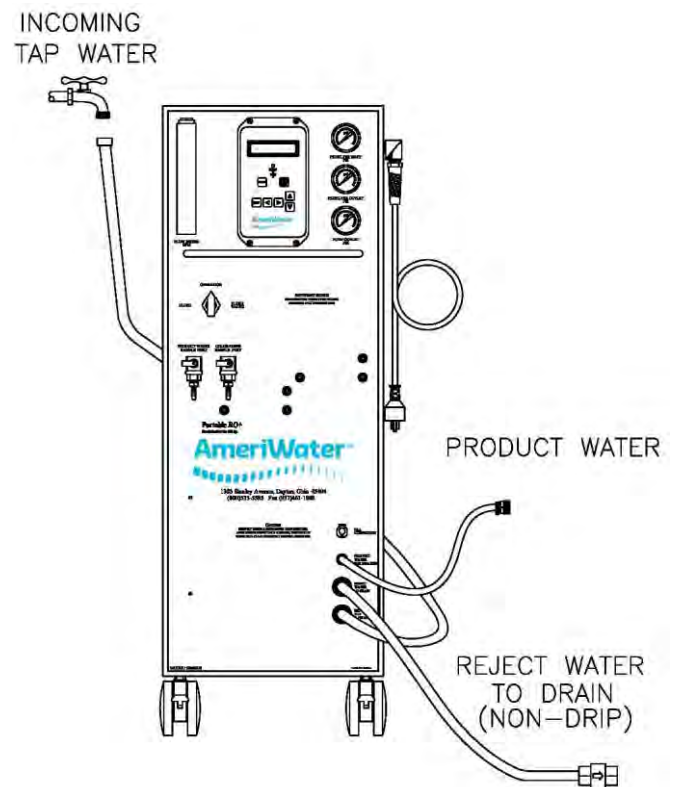

FIGURE 4.2
4. Connect the RO+ INCOMING TAP WATER hose to your potable cold water supply using the fittings supplied (Figure 4.2). If blending both warm and cold water to improve product flow rate, do not exceed 90° F (33° C).
5. The REJECT WATER TO DRAIN hose coming out of the RO+ system is for reject water. The water from this hose will go down the sink or drain (Figure 4.2). Leave at least a 1/2" air gap between the hose and the drain to prevent contamination or siphoning.